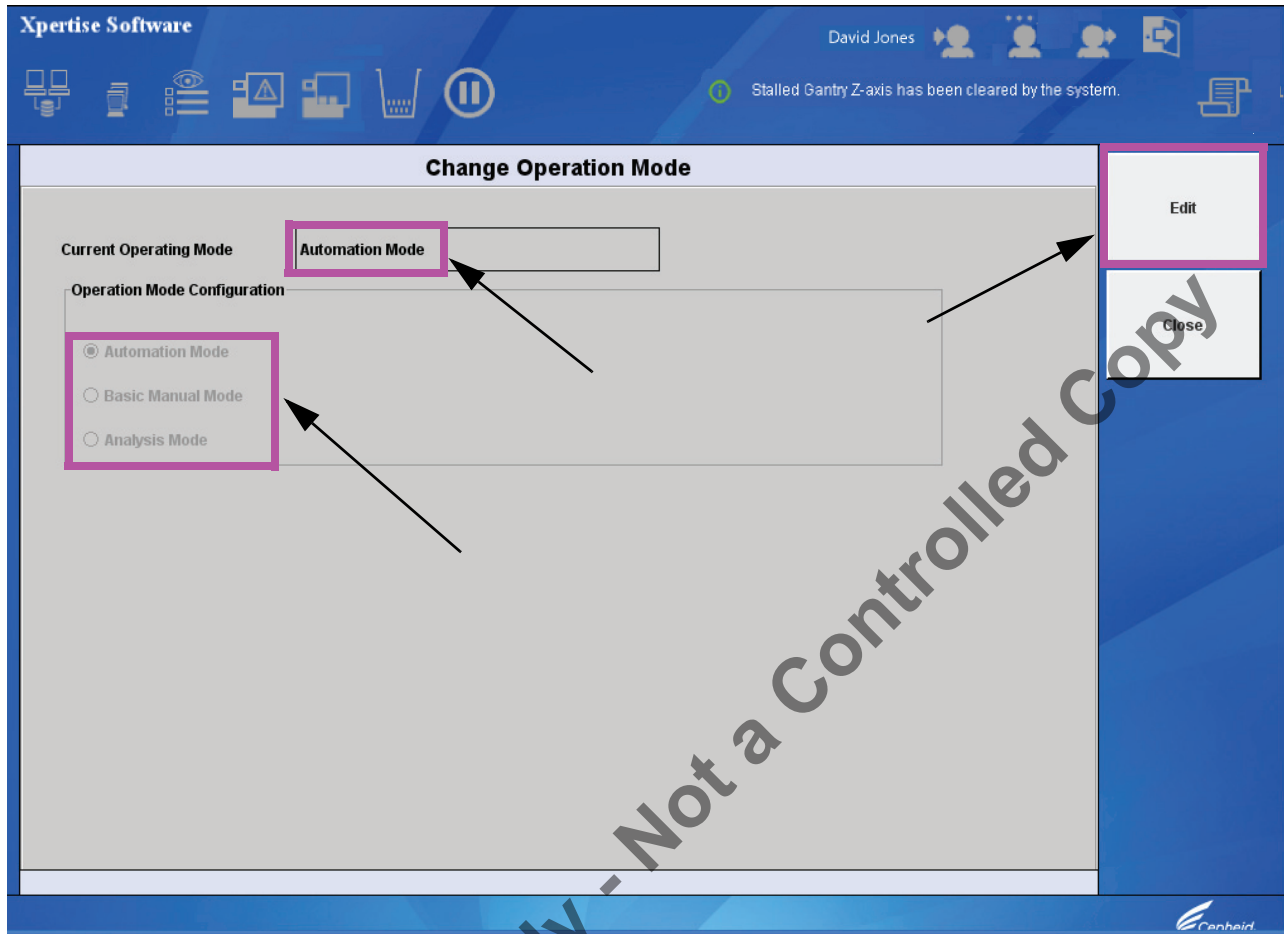

Figure 52. Change Operation Mode Workspace
The **Change Operation Mode** workspace appears (Figure 52).
Three radio buttons are displayed with the current operation mode saved in the database (Figure 52).
4. Press the **Edit** button (Figure 52).